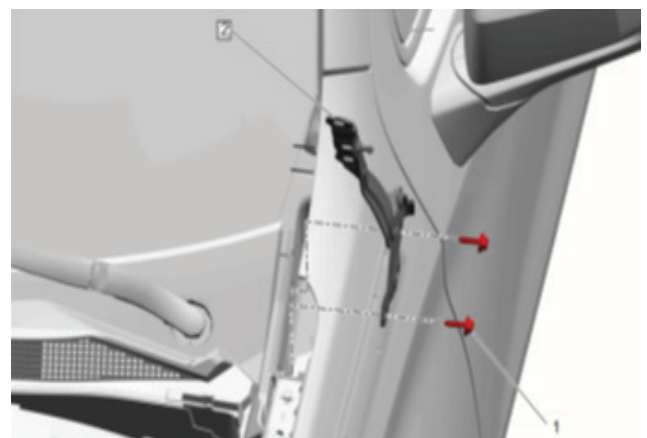

Figure 5
13. Remove the two (2) lower hood hinge bolts. (Figure 5, #1)